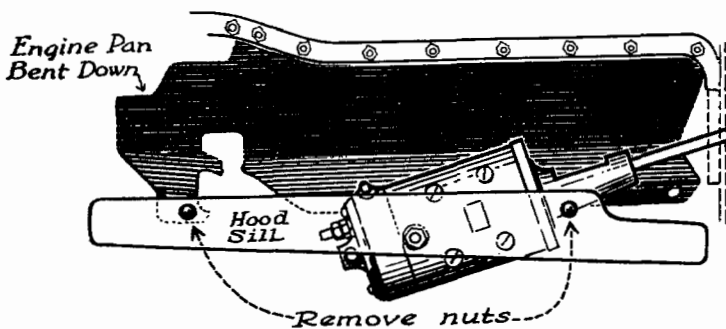

FIG. 7
6. Bend down pan until there is room to slip starting motor through from underneath the car, Fig. 7.